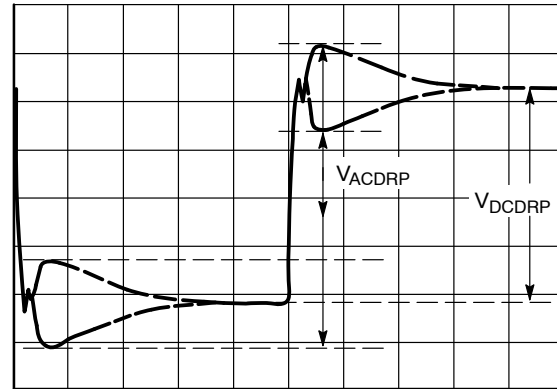

Figure 35. AC Load Line Waveform
5. The resulting waveform will be similar to that shown in Figure 35. Use the horizontal cursors to measure  $V_{ACDRP}$  and  $V_{DCDRP}$ , as shown in Figure 35. Do not measure the undershoot or overshoot that occurs immediately after the step.